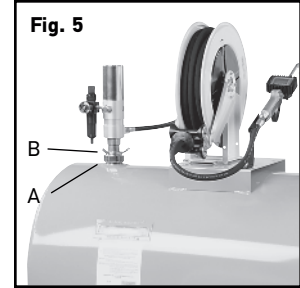

Fig. 5
- c. Attach bung adapter to 2" tank opening, fig. 5, item A
- d. Slide the assembled pump into bung adapter and tighten wing nut, fig. 5, item B, to secure pump at the desired height.